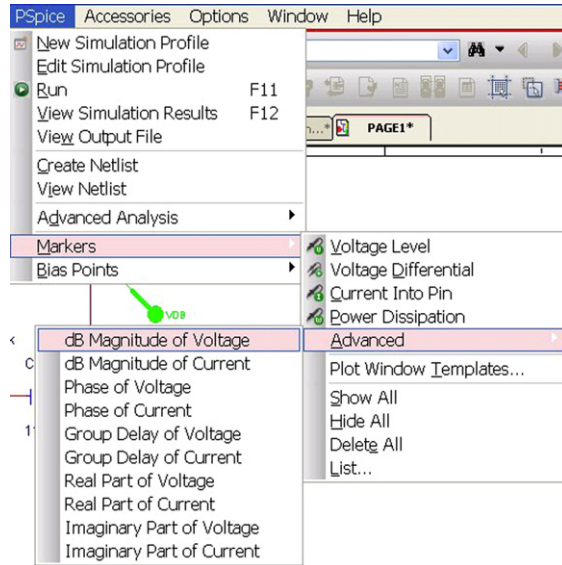

FIGURE 4.8
- Place a V_{dB} voltage marker, which will automatically calculate the output voltage in dB: **PSpice > Markers > Advanced > dB Magnitude of Voltage** (Figure 4.8).